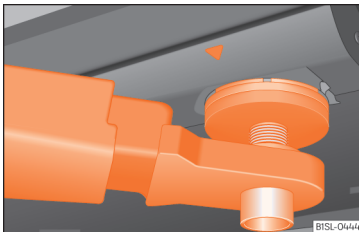
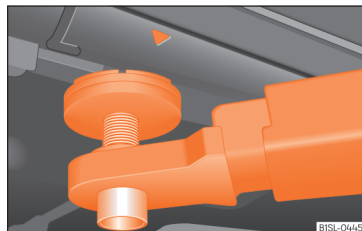

Fig. 174 Front jacking points for raising vehicle with lifting platform or jack
Fig. 175 Rear jacking points for raising vehicle with lifting platform or jack
Always use the jacking points indicated in the figures »» Fig. 174 and »» Fig. 175 when raising the vehicle. If the vehicle is not lifted at these points, it could be seriously damaged »» ⚠ or lead to serious injury »» ⚠.
- Only use the jacking points indicated in the figures »» Fig. 174 and »» Fig. 175 when raising the vehicle. If the vehicle is not lifted at the indicated points, it may fall from the platform while the engine or gearbox is being dismantled, for example.